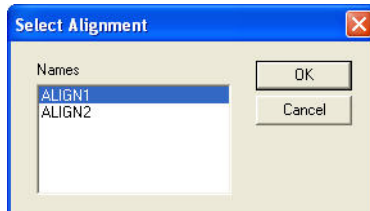

Figure 13-45. Select Alignment
1. Click **Design** ► **Alignments** ► **Create Center Line Points**. The *Select Alignment* dialog box appears (Figure 13-45), listing all of the project alignments.